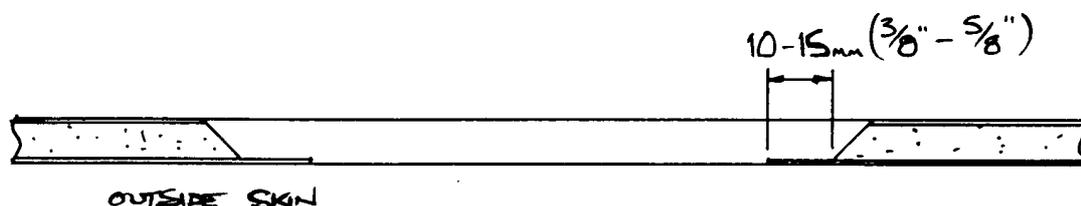

Fig 5. Hole chamfer.
3. Cut the foam core and inside skin back 10 - 15 mm (0.4 - 0.6") from the hole's edge, then chamfer them back at about 45° - (figure 5).